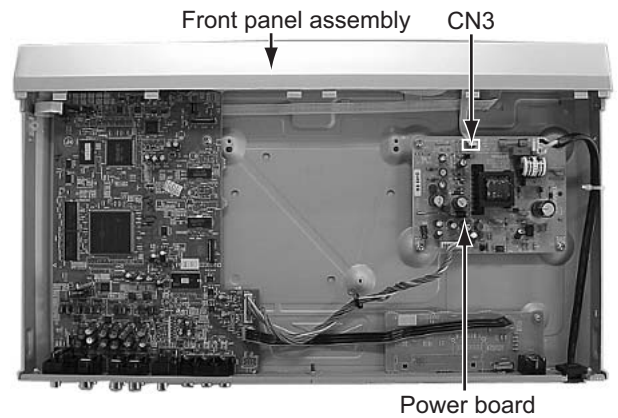
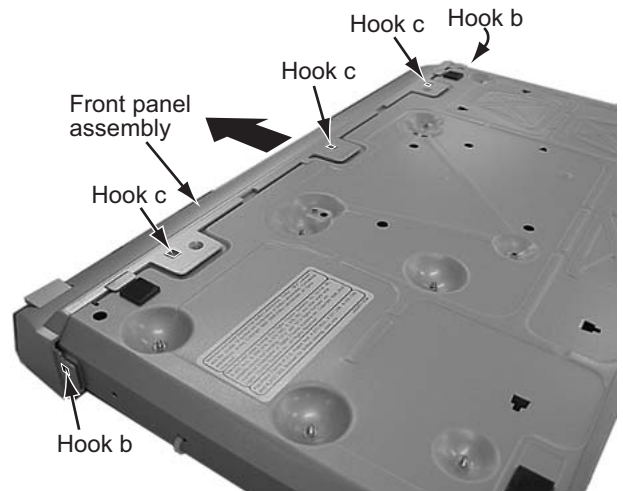
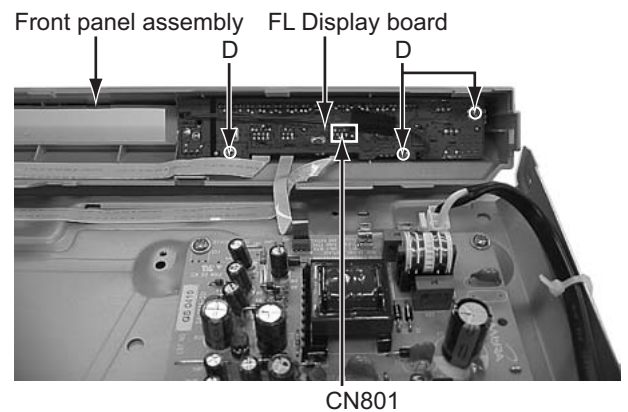

Fig.5
Fig.6
Fig.7
3.1.3 Removing the front panel assembly (See Figure 5, Figure 6, Figure 7)